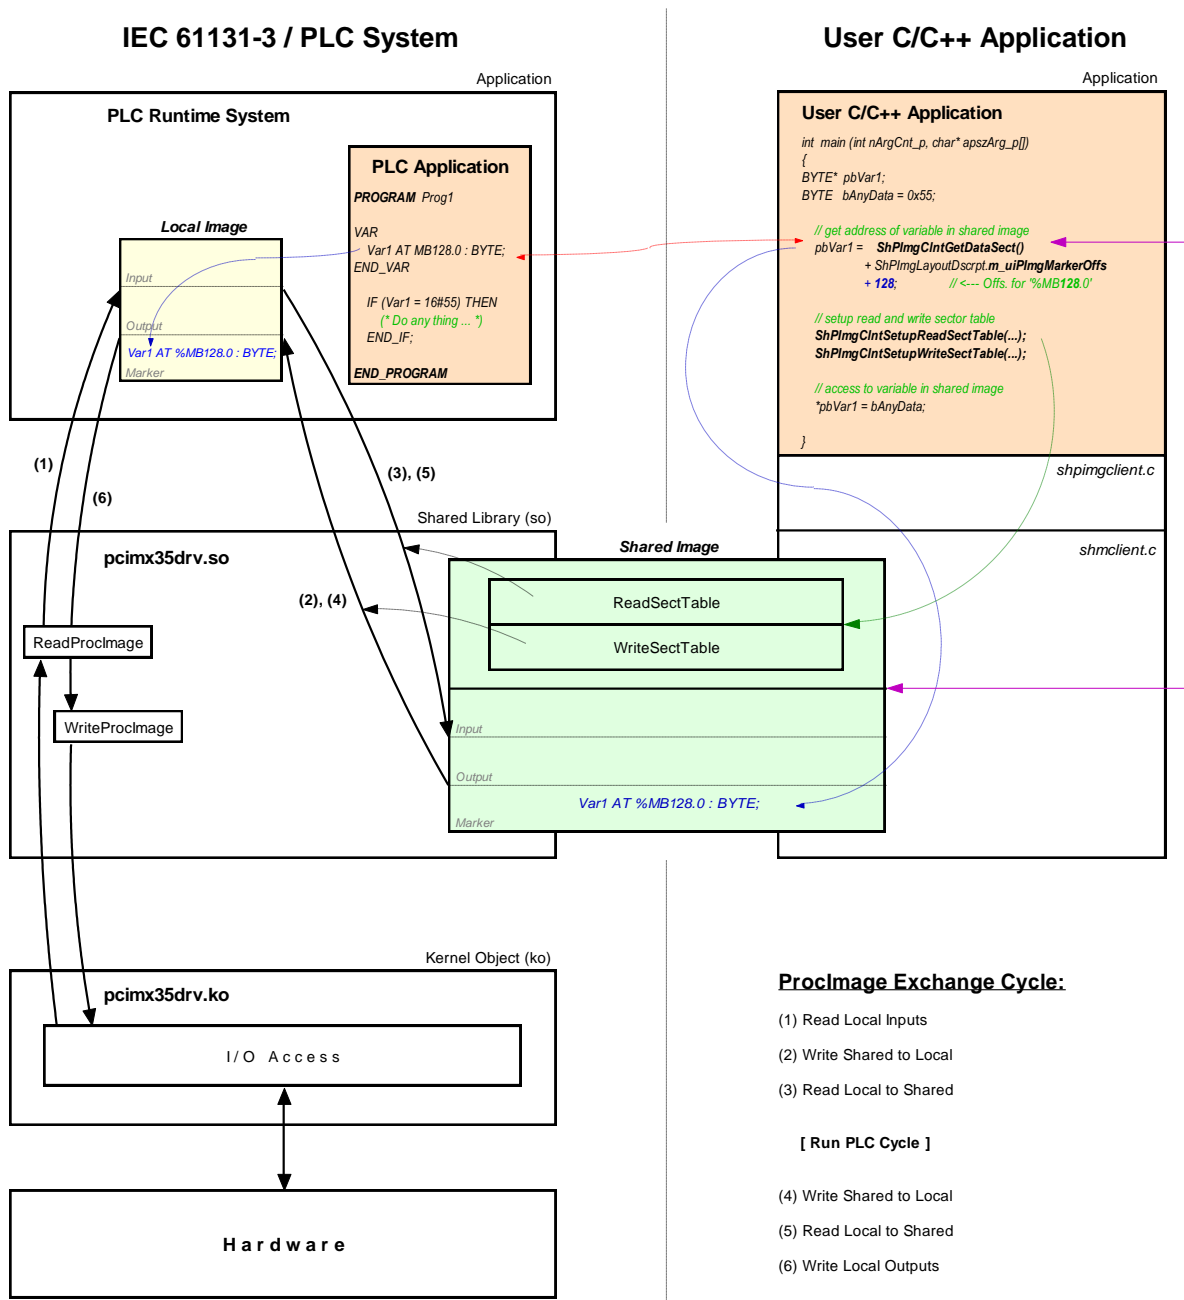

Figure 29: Overview of the shared process image
Not all variables are utilizable via the shared process image within a C/C++ application. Only those directly addressed variables that the PLC program generates within the process image. As shown in Figure 29, two separate process images are used for the data exchange with an external application inside of the PLC runtime system. This is necessary to meet the IEC 61131-3 requirement that the initial PLC process image may not be modified during the entire execution of one PLC program cycle. Thereby, the PLC program always operates with the internal process image that is locally generated within the PLC runtime system ("Local Image" in Figure 29). This is integrated within the PLC runtime system and is protected against direct accesses from the outside. On the contrary, the user-specific, external C/C++ application always uses the shared process image ("Shared Image" in Figure 29). This separation of two process images enables isolation between accesses to the PLC program and the external application. Those two in parallel and independently running processes now must only be synchronized for a short period of time to copy the process data.
An activation of option **"Share PLC process image"** within the PLC configuration enables data exchange with external applications (see section 7.4.1). Alternatively, entry `"EnableSharing="` can directly be set within section `"[Proclmg]"` of the configuration file `"/home/plc/bin/plccore-ix35.cfg"` (see section 7.4.3). The appropriate configuration setting is evaluated upon start of the PLC firmware. By activating option **"Share PLC process image"**, the PLC firmware creates a second process image as Shared Memory ("Shared Image" in Figure 29). Its task is to exchange data with external applications. Hereby, the PLC firmware functions as Server and the external, user-specific C/C++ application functions as Client.
Sections to read and write may comprise all sections of the entire process image – input, output as well as marker sections. This allows for example that a Client application writes data into the input section of the PLC process image and reads data from the output section. Figure 29 shows the sequence of single read and write operations. Prior to the execution of a PLC program cycle, the physical inputs are imported into the local process image of the PLC (1). Afterwards, all sections defined in *WriteSectorTable* are taken over from the shared process image into the local process image (2). By following this sequence, a Client application for example is able to overwrite the value of a physical input. This may be used for simulation purposes as well as for setting input data to constant values (**"Forcen"**). Similarly, prior to writing the process image onto the physical outputs (6), sections defined in *WriteSectorTable* are taken over from the shared process image into the local process image. (4). Thus, a Client application is able to overwrite output information generated by the PLC program.
As illustrated in Figure 29, the user-specific C/C++ application exclusively uses the API (Application Programming Interface) provided by the *shared process image client*. This API is declared in the